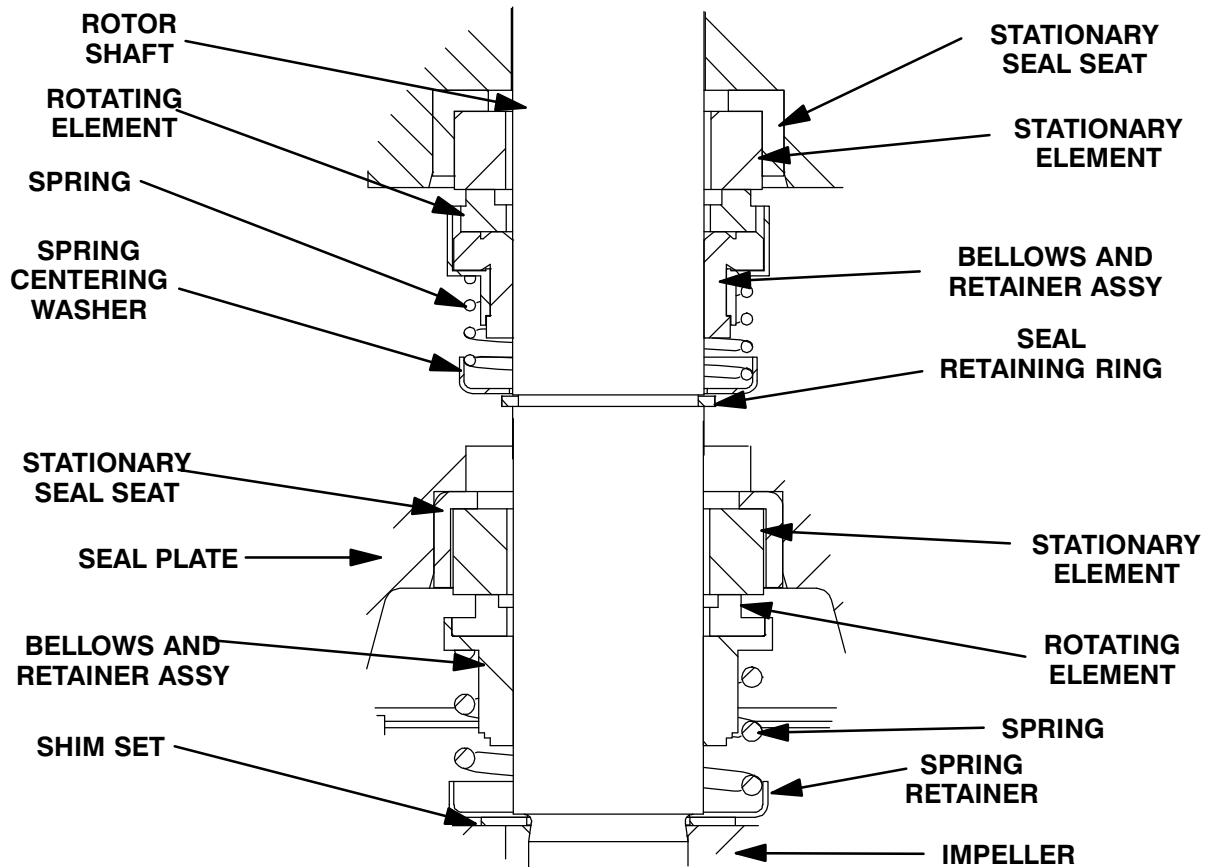

Figure E-3. Upper And Lower Seal Assemblies
Install the shaft seals as illustrated in Figure E-3.
Slide the seal spring over the shaft and bellows retainer and install the spring centering washer (9). Install the seal retaining ring (10). See Figure E-3 for the proper order of seal assembly.
Install the seal spring over the bellows retainer and install the spring retainer (18). See Figure E-3 for proper order of seal assembly.